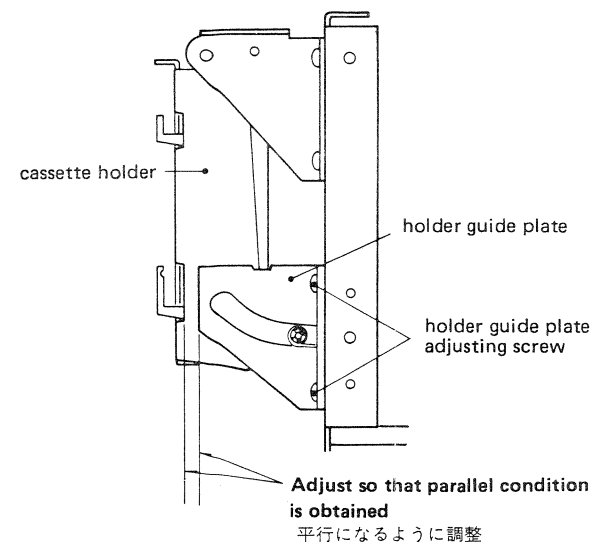

Fig. 5-2
1. Adjust the position of holder guide plate so that it is parallel with the cassette holder as shown in Fig. 5-2 when a cassette tape is loaded.